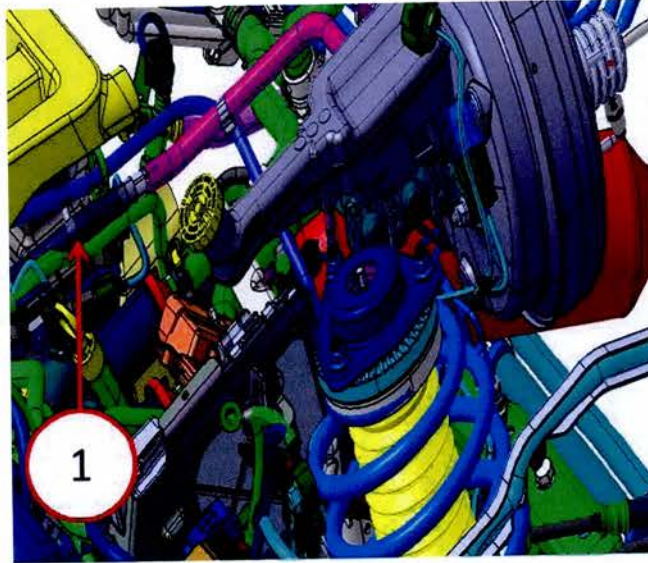
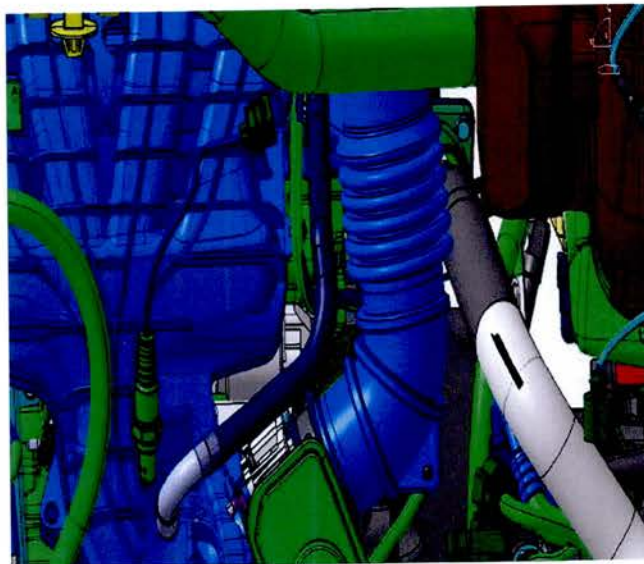

Fig. 4 Vacuum Hose Routing
Fig. 5 Vacuum Hose Routing
4. Install new hose to intake manifold part number 04743859AC and clip to fuel line as shown in (Fig. 4) and (Fig. 5)